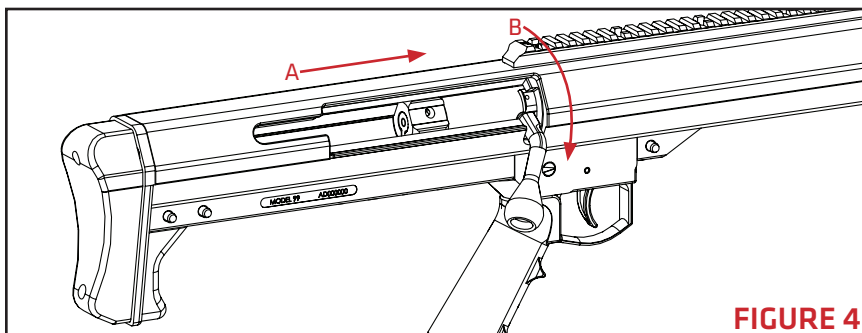

FIGURE 4
3. Push the bolt handle fully forward (**FIGURE 4-A**) and then downward (**FIGURE 4-B**).